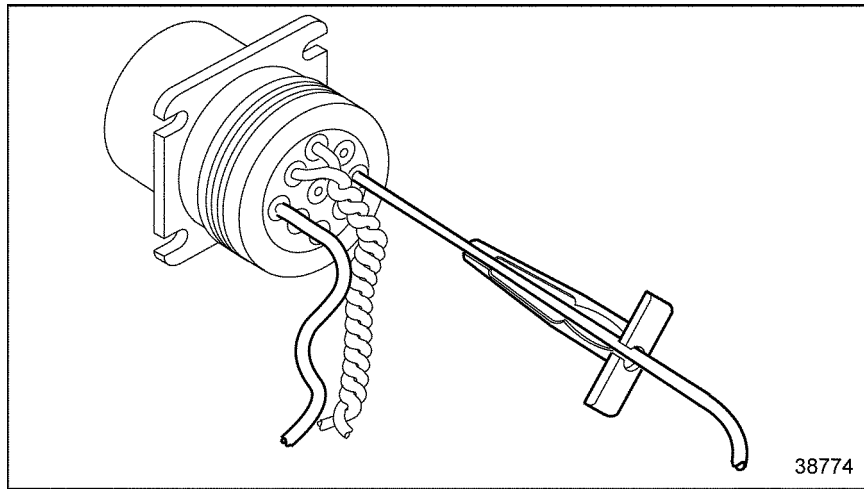

Figure 3-14 Removal Tool Position
1. With the rear insert toward you, snap the appropriate size remover tool over the cable of contact to be removed. See Figure 3-14.